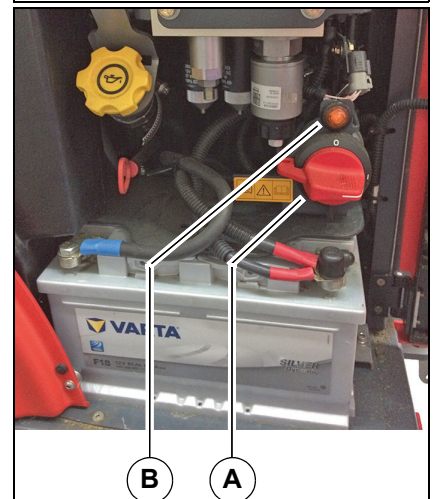

Fig. 117:
The battery isolation switch **Fig. 117-A** is behind the left side door. If the vehicle is parked for a longer period of time, the battery may self-discharge. For this case:
1. Switch off the vehicle with the ignition switch. The indicator light **Fig. 117-B** goes off after about 30 seconds.
The battery isolation switch may not be switched off if the indicator light **Fig. 117-B** is on!